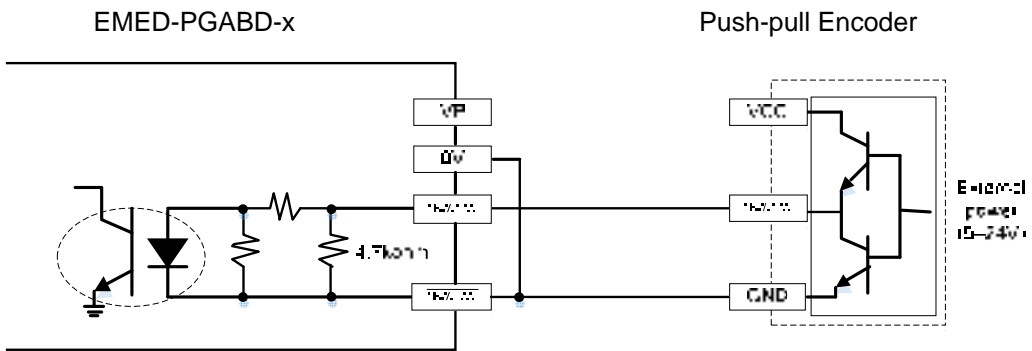

Figure 8
3. Push-pull output encoder application: Each set of input current is 5–15 mA. If input voltage uses 24V power, connect the encoder power externally. See the PG wiring Figure 8 below.